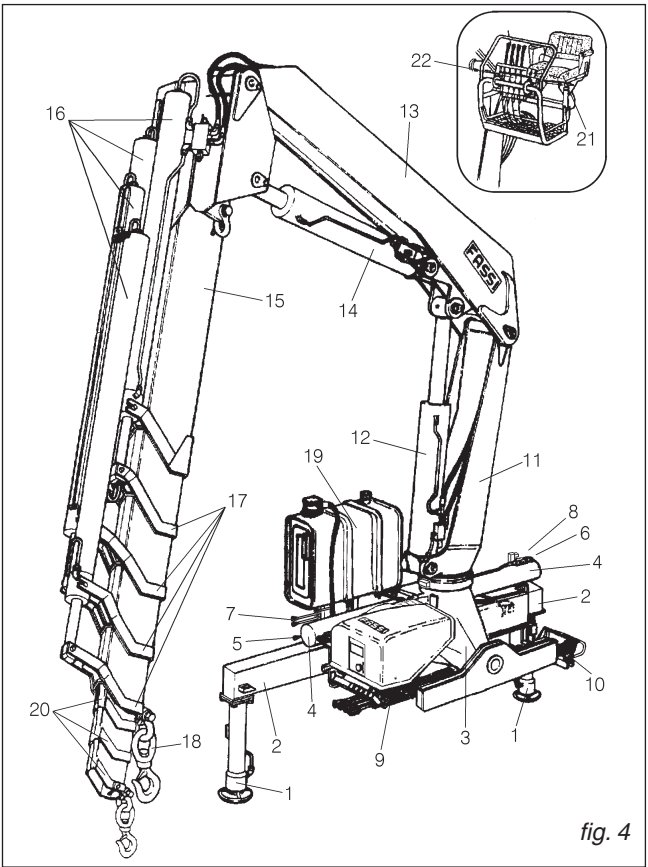

fig. 4
9.1 Crane with ground controls on both sides. Crane with ground controls on both sides and with top seat controls by hand cables (on request)(fig. 4).